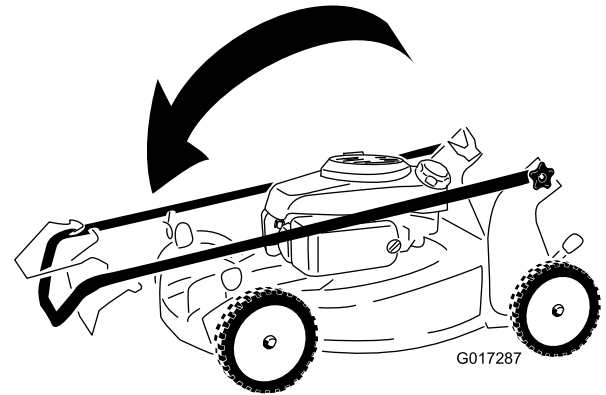

Figure 23
2. Fold the upper handle forward as shown in Figure 23.